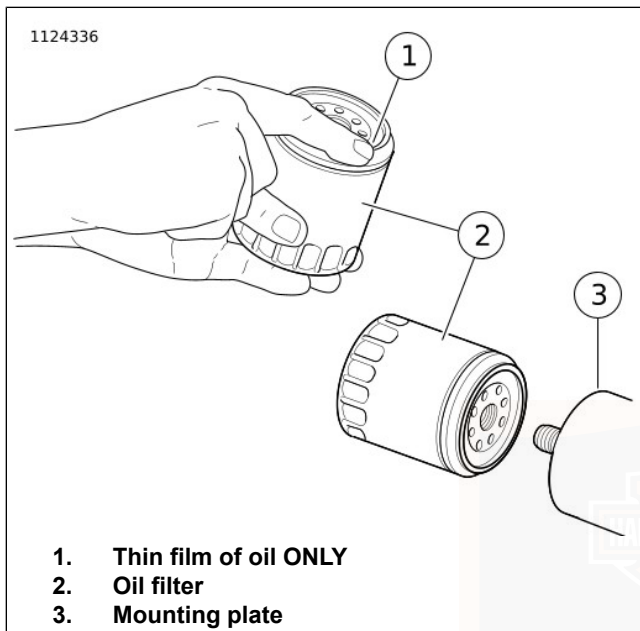

Figure 63. Applying Thin Oil Film
7. See Figure 63. Install **new** oil filter.